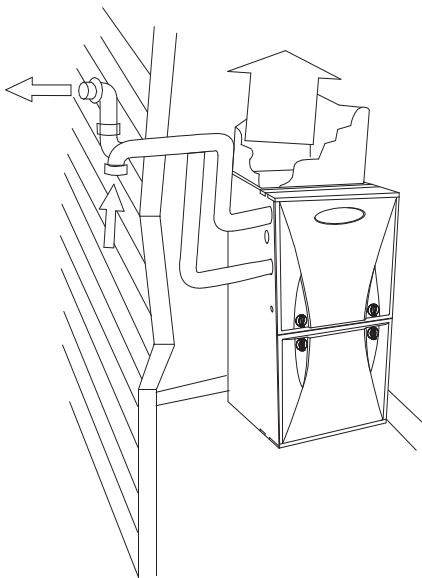
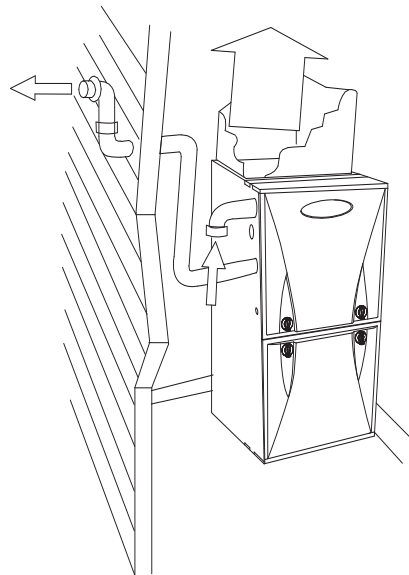

Fig. 2 – Exterior Vent Pipes
Fig. 3 – Interior Combustion - Air Pipe
- Your new gas furnace may have been installed in one of two ways, as a direct-vent (2-pipe-Fig. 2) application or as a non-direct vent (1-pipe-Fig. 3) application.
- In a direct-vent (2-pipe) application, your furnace uses air from outside the home for combustion and vents flue gas to the outdoors. This type of application will have two pipes running from the furnace to the outdoors. In some cases, the inlet air pipe may be located in an area that has access to outdoor air, such as an attic. In all cases, the outlet vent pipe must be routed to the outdoors (see Fig. 2). In this application, the vent and air-intake pipes must terminate outside the structure and must not be obstructed in any way. Do not block or obstruct air openings on furnace or spaces around furnace.
- In a non-direct vent (1-pipe) application, your furnace uses air from adjacent to the furnace for combustion and vents flue gas to the outdoors. This type of application will have only one pipe running from the furnace to the outdoors (see Fig. 3). The other pipe will